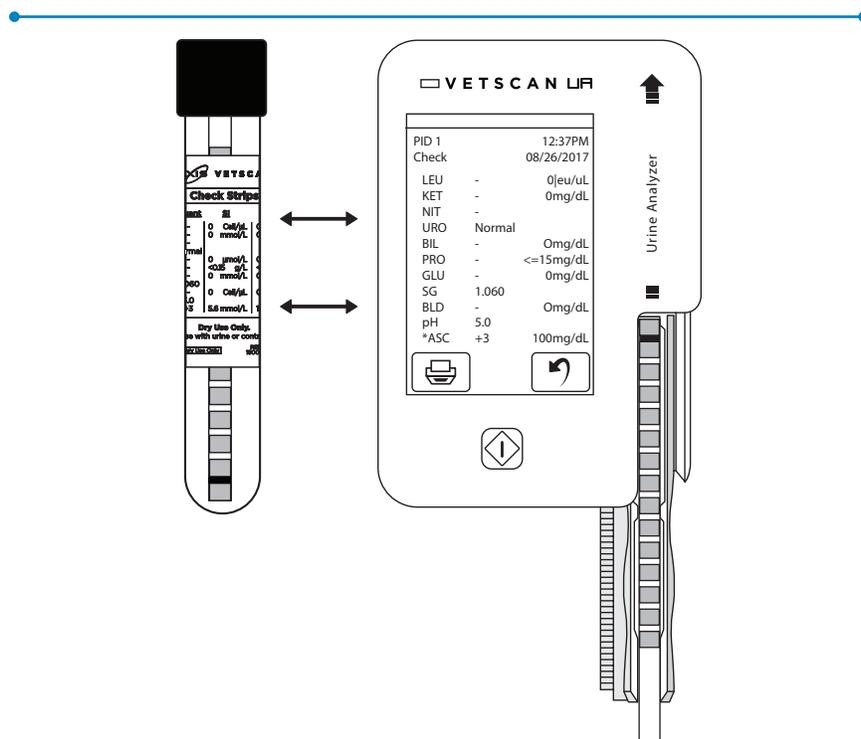

Fig. 22 Compare Check Strip results with Tube Label
5. When testing is completed, compare the onscreen results with those on the label on the Check Strip tube. (Fig. 22) If the results match, the analyzer is fit for analyzing samples. If the results do not match, run the second Check Strip (provided) to be sure the first strip is not damaged.